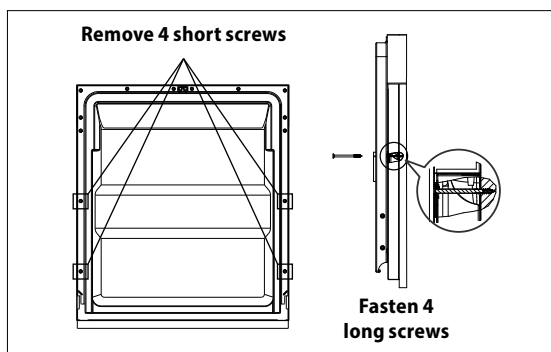

Fig. 15b
- Fasten the cover plate using the screws (Fig. 15b).
- Unscrew the four short screws from the inner side of the door (Fig. 15b).
- Screw the four long screws instead of the short ones. Now the cover plate is fastened to the appliance door (Fig. 15b).